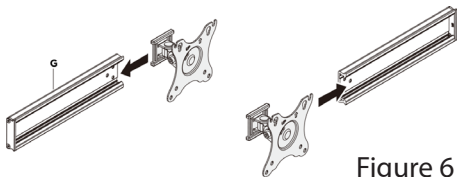

Figure 6
6. Slide the newly capped **VESA Mount Assemblies (x2)** into each of the **Crossbars (x2)**. As Shown in Figure 6.